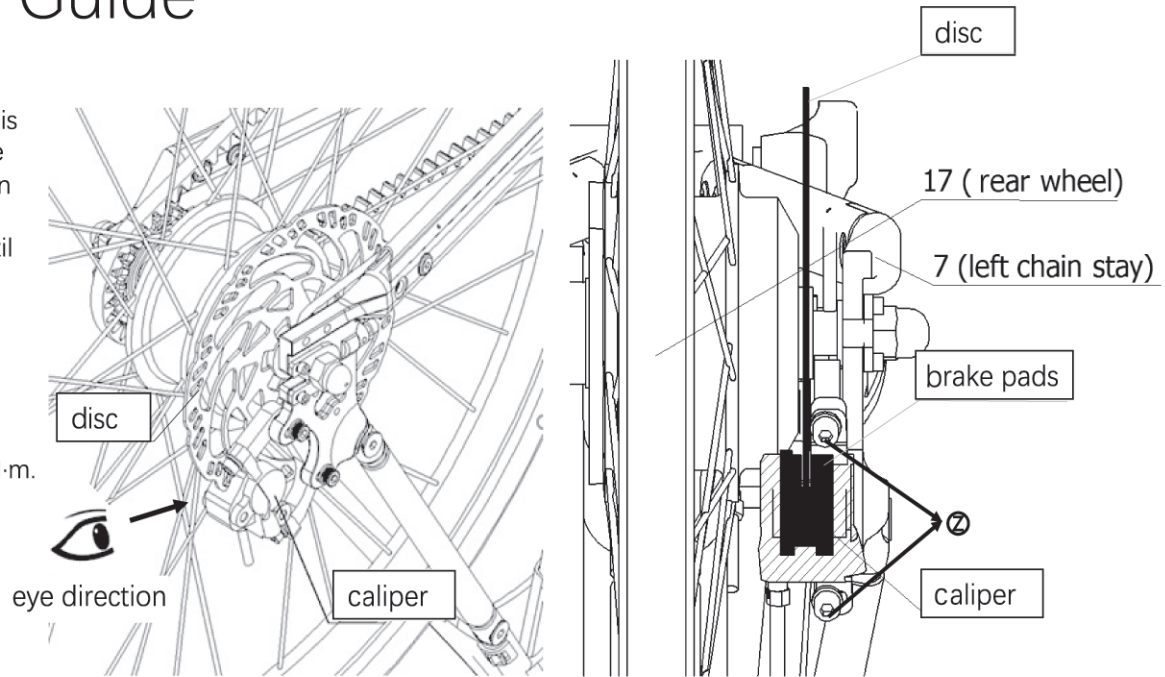

Figure 41.
e. After fixing the caliper, observe whether the disc is in the middle of the brake pads. If not, slightly loosen the screw and adjust the position of the caliper until the disc is in the middle, and then tighten the screws \odot . As shown in Figure 41.